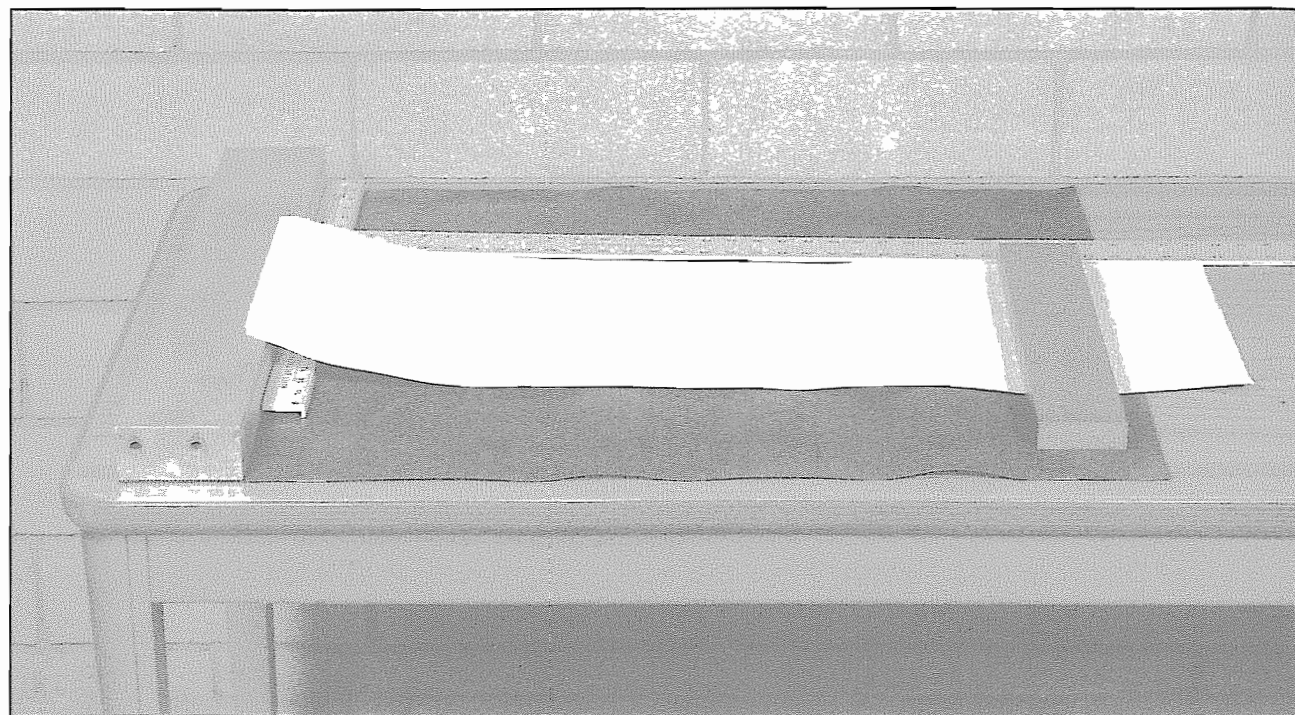

Figure 8-23. A heavy weight (in this case the steel block from the small tube setup) holds the paper firmly in place.
5. Pick up one of the strips. Bevel the corners of one end (snip them at a 45° angle with a pair of scissors), and orient the paper so that the beveled end rests on the steel block. Align the paper's edge with the inside edge of the dry wall square, and hold the paper firmly in place with a heavy weight (*Figure 8-23*). *Without wiggling the paper or disturbing its position*, remove the dry wall square.